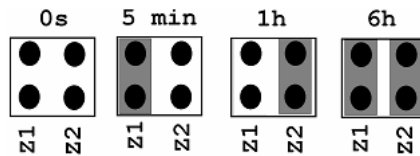

Fig. 7. Configuration of the jumpers.
- **BS - absence of AC supply output:** - OC type output that indicates absence of 230V AC supply. In normal status, with 230V AC supply, the output is open. In case of power loss, the PSU will switch the output after a time period set by the Z1, Z2 jumpers (Fig. 7).